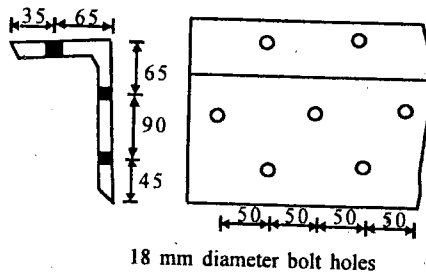

Fig. 3a
- (a) (i) Determine the effective net area of ISA 200 × 100 × 12 members shown in the following Fig. 3a.